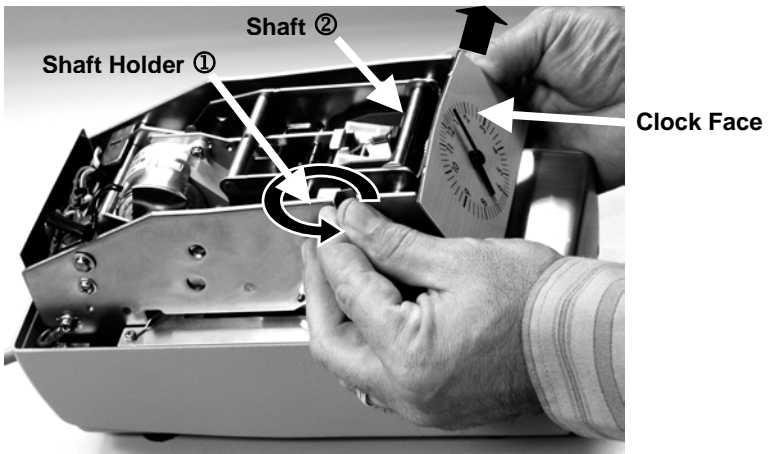
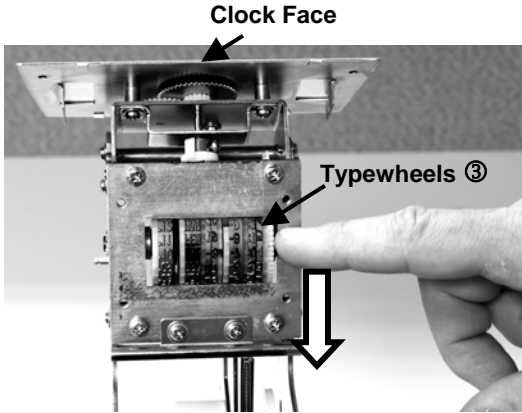

Figure 2.
Figure 3.
(Refer to Fig. 2, 3, & 5)
- Remove the case, and turn the **shaft holder** [1] in the arrow direction indicated in Figure 2 to detach it from the **shaft** [2].
- Next pull out the **shaft** [2] in the arrow direction indicated in Figure 2, and set up the typewheel and clock sections as shown in Figure 3.
- Keeping the electrical cord to A.C. main, push the **minute advance lever** [5] as shown in Figure 5, in the arrow direction, then turn the **typewheels** [3] for year, month, date, hour and minute in the direction of the arrow shown in Figure 3 and set one minute before the desired time.